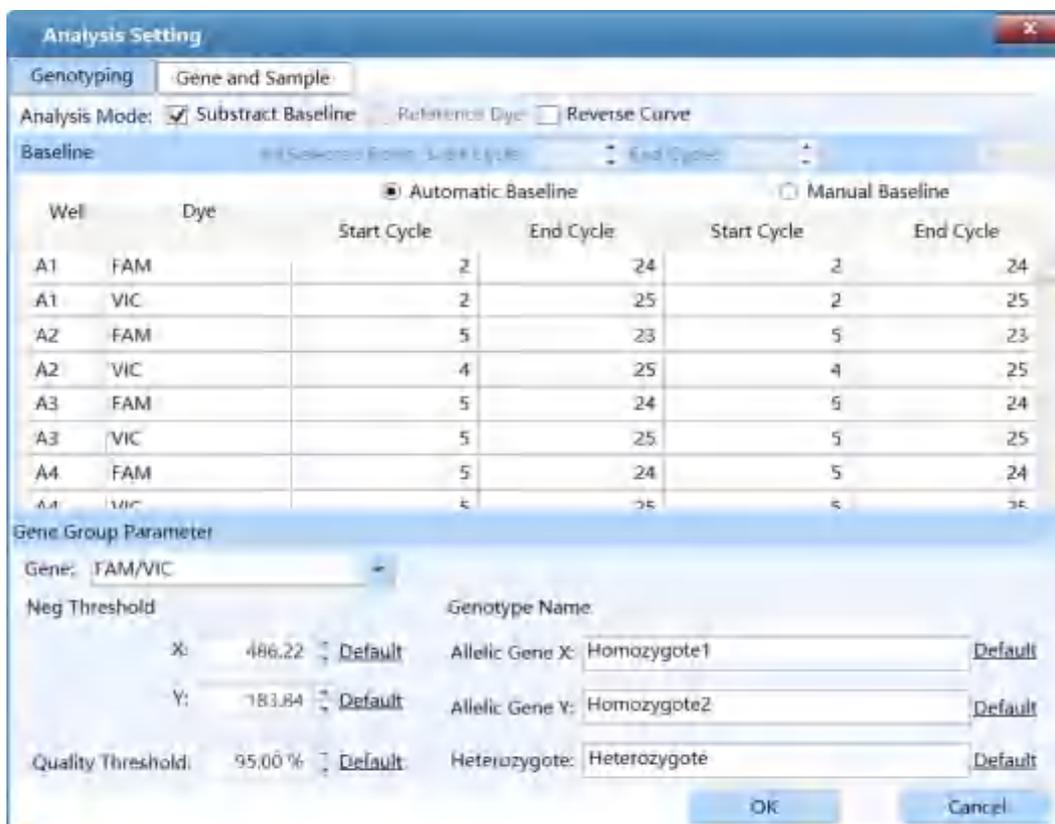

Figure D-16. Genotyping Analysis Setting interface - Genotyping tab
- I. **Genotyping** tab: user can set **Analysis Mode** and **Gene Group Parameter** in **Genotyping** tab, as shown in figure D-16.